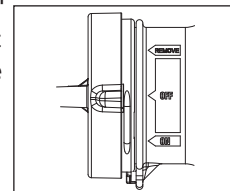

Figure 7
5. Before rinsing, move indicator on cap to "OFF" position to shut off soap (Figure 7).